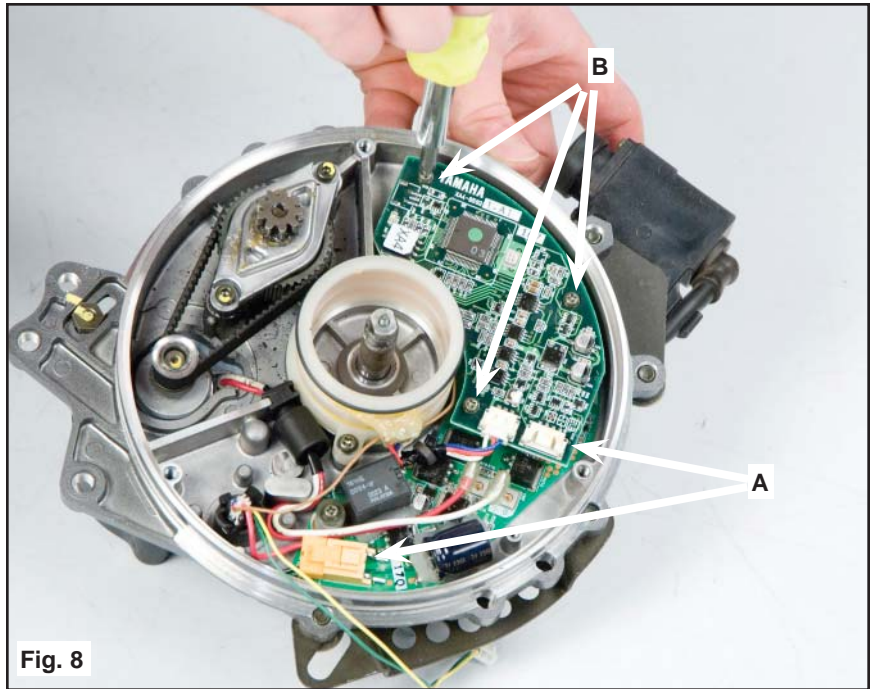

Fig. 8
8) Unplug the 2 connectors (A) that you can access (Fig 8).
9) Using a #2 Phillips screw driver remove the 3 screws (B) that secure the upper circuit board. Once the screws are removed gently pull up on the upper board to remove it. (Fig 8)